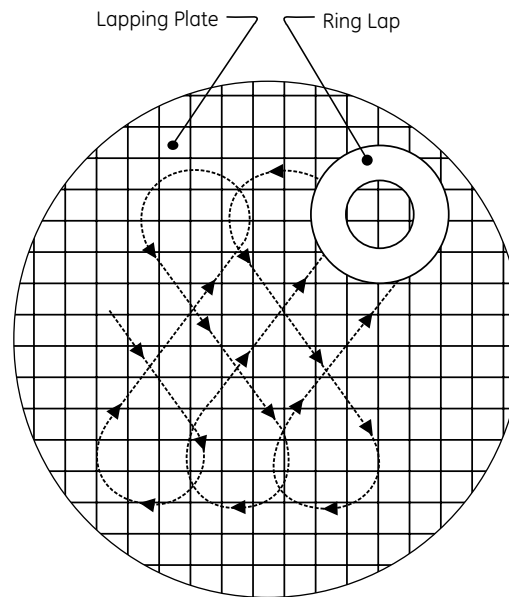

Figure 37: Lapping Pattern
Ring laps are reconditioned by lapping them on a flat lapping plate in a figure-eight motion (Figure 37). To ensure the best results, recondition the ring laps after each use. Use an optical flat to check the quality of the lap.
- b. The "A" dimension (See Figures 37 and 38) exceeds A max. in Table 6.